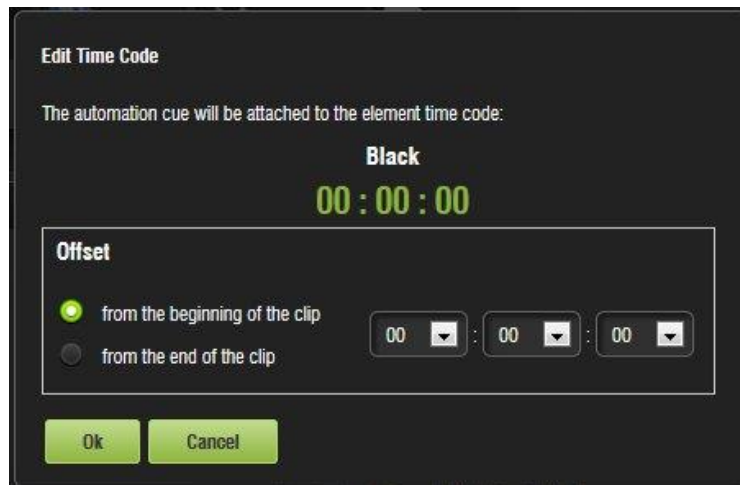

Figure 227: Edit Time Code Window
- The Edit Time Code window will appear (Figure 227).